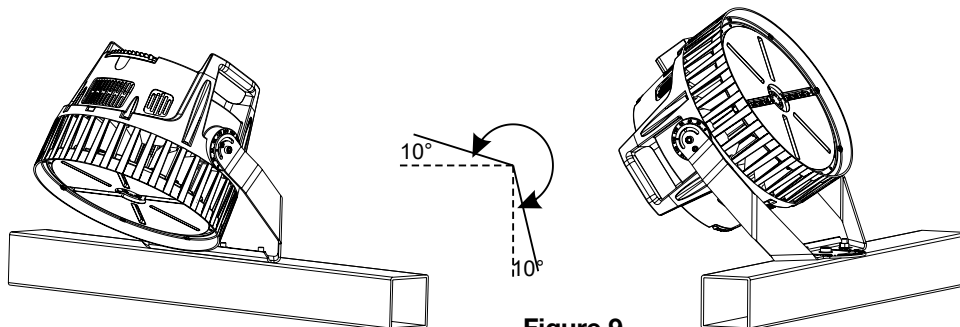

Figure 9
5. According to the need, adjust the projection angle, angle adjustment range (Figure 9).